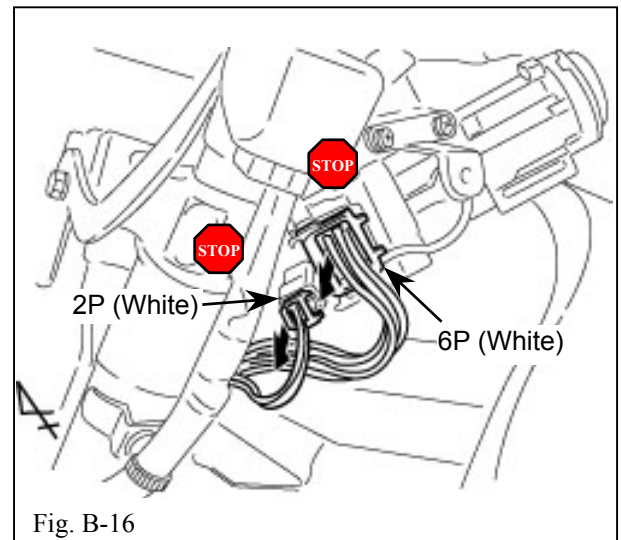

Fig. B-16
22. Locate and disconnect the white 2P and white 6P connector from the ignition switch. (Fig. B-16)